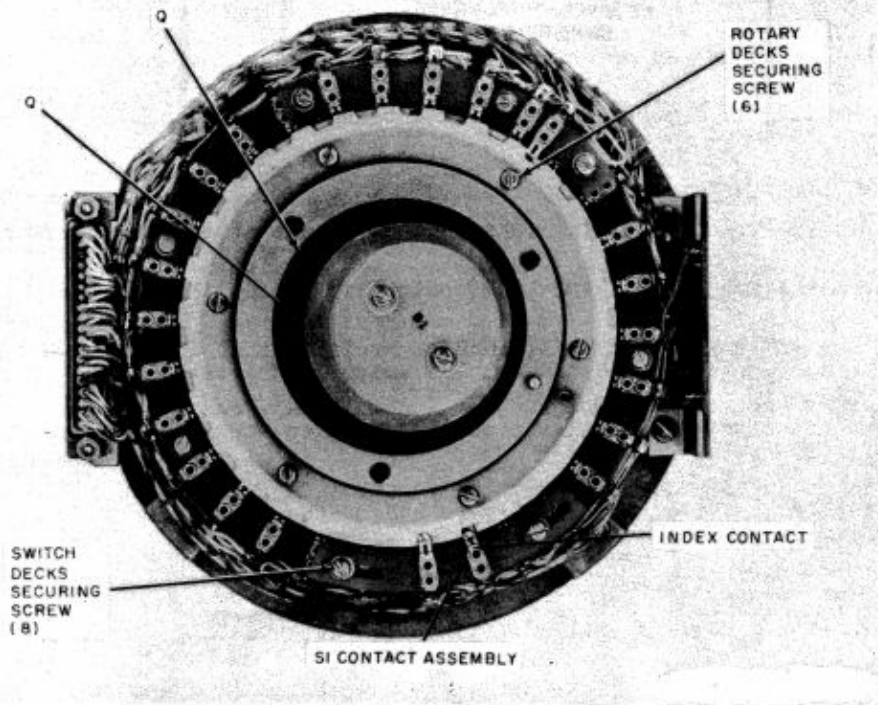

FIG 34 - AMPLIFIER, RADIO FREQUENCY AM-3349/GRC-106, TURRET ASSEMBLY 2A2 -
j. Loosen the six screws that secure the rotary decks to the turret base (fig 34). If turret contacts overshoot, adjust the second and third rotary decks (counting from the top) counterclockwise an amount proportional to the overshoot. If turret contacts undershoot, adjust the second and third rotary decks, counting from the top clockwise an amount proportional to the undershoot.